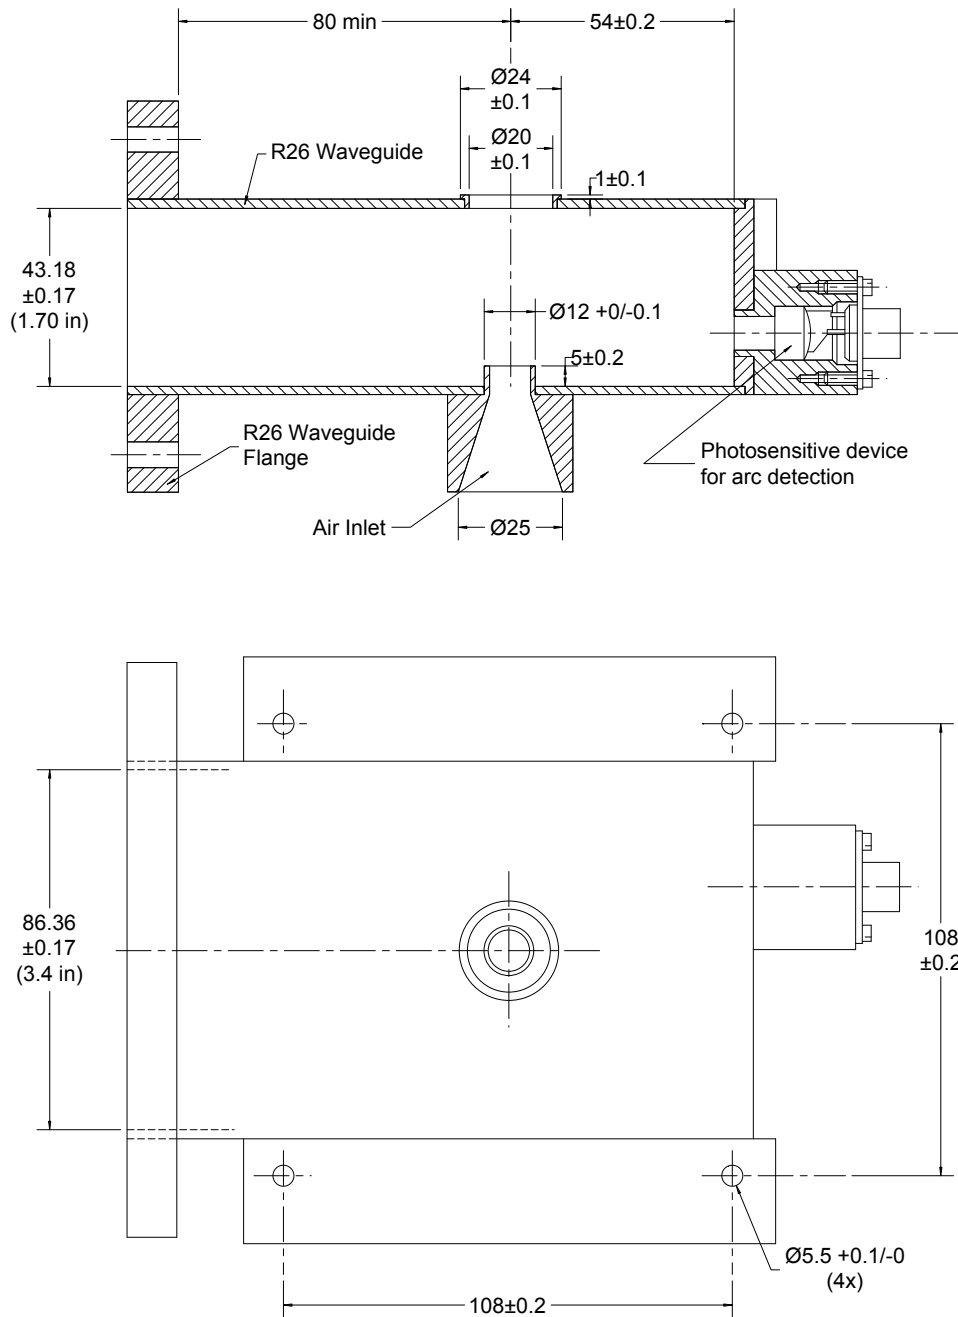

Fig. 6
2. A launching section according to Fig. 6.
Rieke diagram for a YJ1600FL connected to an R26 waveguide fig. 6 Magnet temperature 25°C; $V_g = 7.2$ kV (peak); $I_a = 950$ mA; d is the distance from the reference plane towards the load of the voltage standing wave minimum
Rieke diagram for a YJ1600FL connected to an waveguide Fig.6. The reference plane is the transverse plane passing through the antenna axis. The maximum output power of 5 kW is obtained near the sink region with a distance from the reference plane to the voltage minimum of the standing wave about 0.05λ . and a v.s.w.r. of about 2.5. Continuous operation of the magnetron in the antisink region should be avoided because the efficiency is low and the life of the tube will be shortened. To prevent a mismatch, the use of an isolator is recommended. For 6 kW operation, an isolator should always be used.